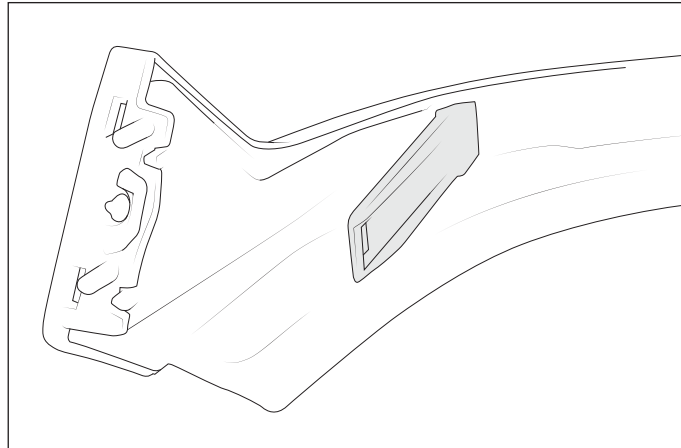

Figure 16
- C. Cut the headlight surround making sure to remove the tab on the back side (fig. 16).